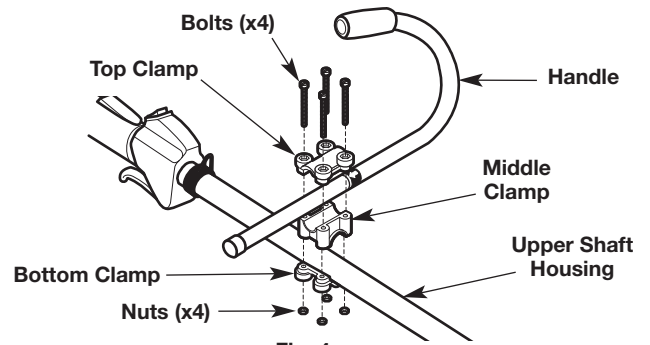

Fig. 4
1. Place the handle between the top clamp and middle clamp (Fig. 4). If necessary, rotate or flip the middle clamp until the holes in the top clamp and middle clamp align.
2. Place the clamps and handle over the upper shaft housing and onto the bottom clamp (Fig. 4).
NOTE: Make sure the curved portion of the handle is on the operator's left (Fig. 4).
3. While holding the pieces together, insert the bolts (x4) into the aligned holes (Fig. 4).
4. Screw a nut onto the end of a bolt, but only slightly. Push the nut into the hexagonal recess on the bottom clamp. Hold the nut in place with a finger to keep it in the recess. Tighten the bolt with a Phillips screwdriver, but do not tighten it completely (Fig. 4). Repeat this step for each nut and bolt.
1. Loosen the bolts (x4) slightly with a Phillips screwdriver (Fig. 4).